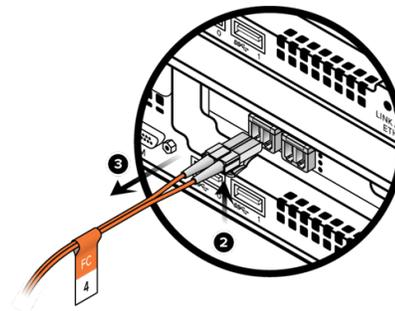

Figure 11-4. Disconnecting Host and Replication Cables (Fibre Channel Shown)
2. Disconnect the cable by releasing the connector latch. See Figure 11-4.